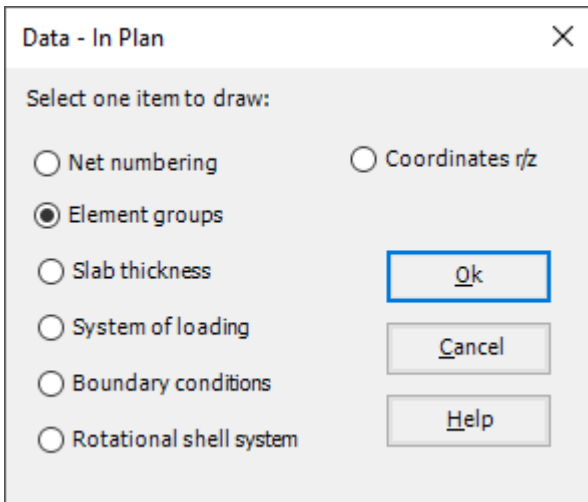

Figure 3.27 "Data – In Plan" option box
- Choose "Element groups" from "In Plan" command in "Data" menu. The following option box in Figure 3.27 appears